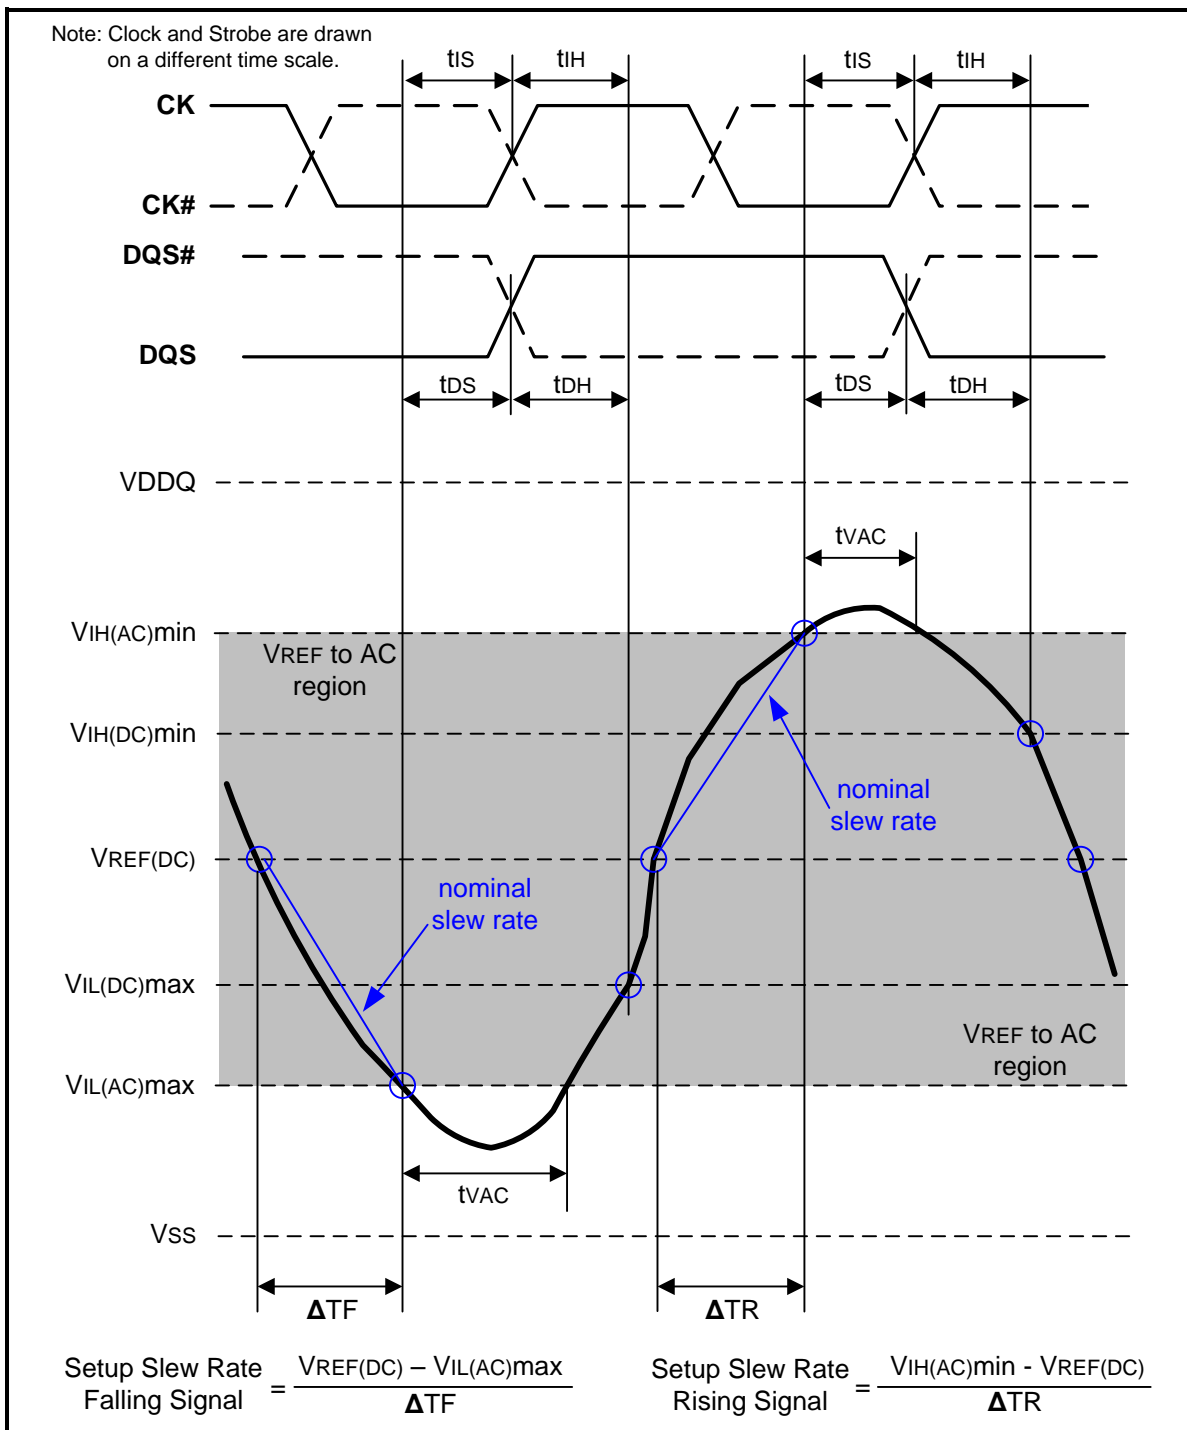
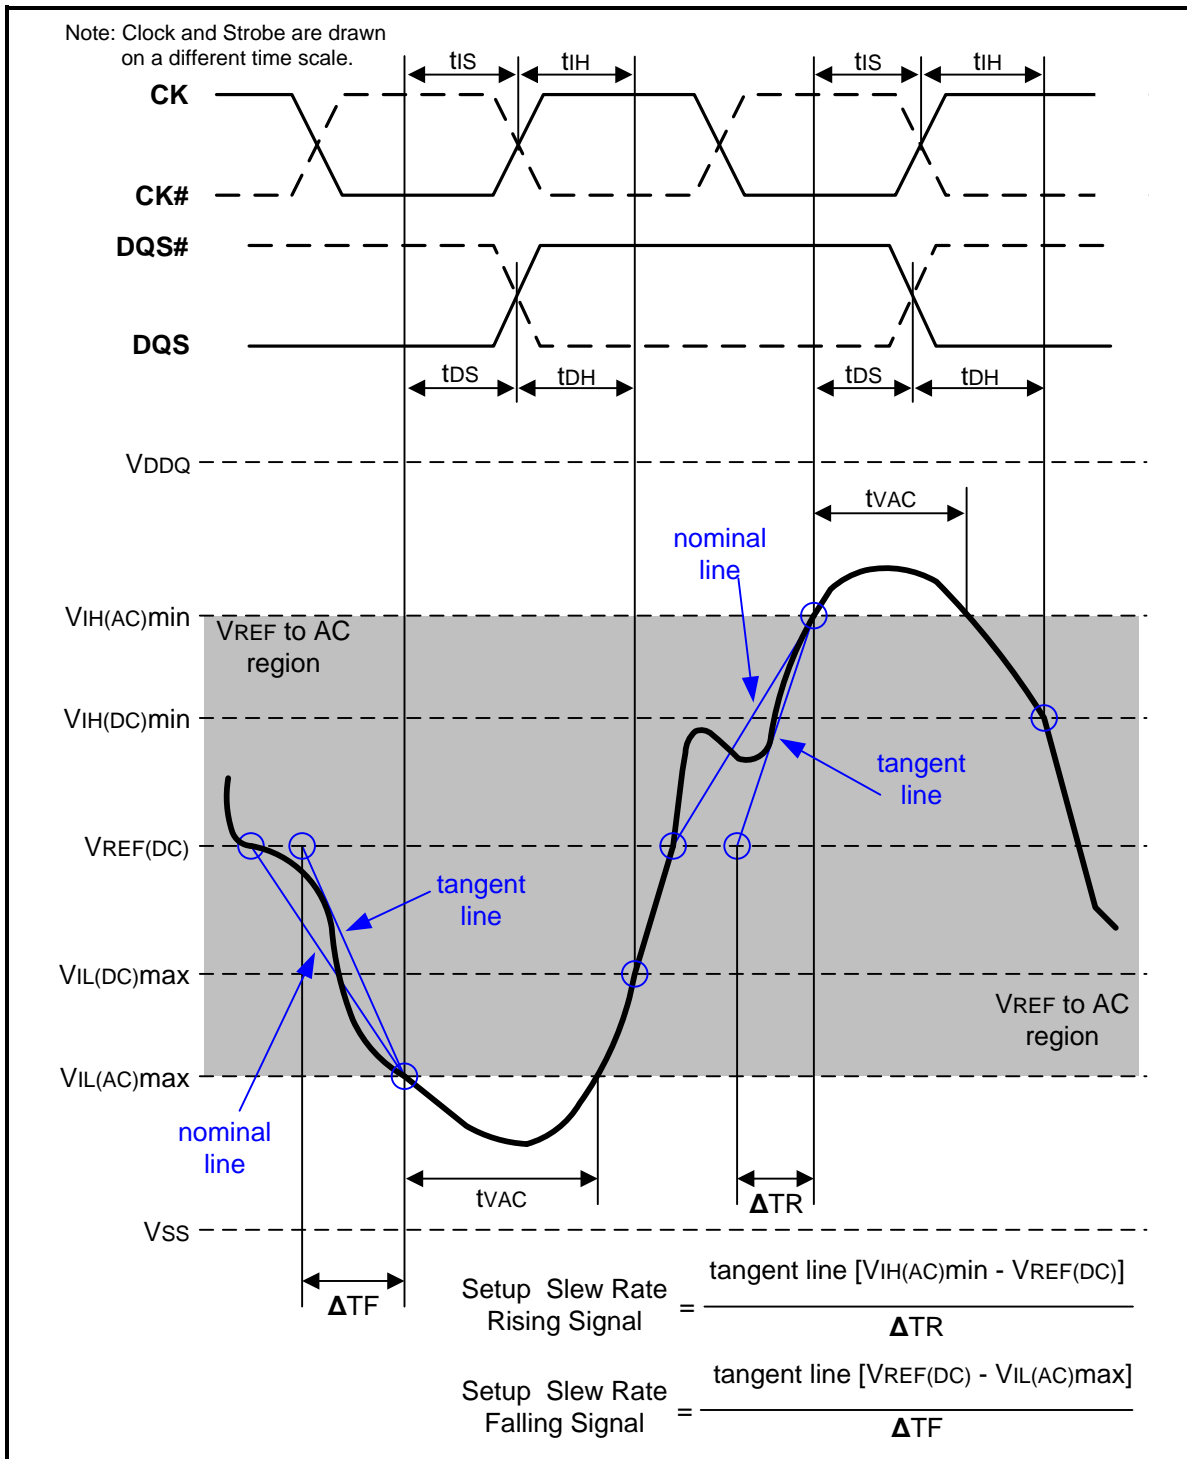

Figure 107 – Illustration of nominal slew rate and t_{VAC} for setup time t_{DS} (for DQ with respect to strobe) and t_{IS} (for ADD/CMD with respect to clock)
Figure 109 – Illustration of tangent line for setup time t_{DS} (for DQ with respect to strobe) and t_{IS} (for ADD/CMD with respect to clock)
Setup (t_{IS}) nominal slew rate for a rising signal is defined as the slew rate between the last crossing of $V_{REF}(\text{DC})$ and the first crossing of $V_{IH}(\text{AC})_{\text{min}}$. Setup (t_{IS}) nominal slew rate for a falling signal is defined as the slew rate between the last crossing of $V_{REF}(\text{DC})$ and the first crossing of $V_{IL}(\text{AC})_{\text{max}}$. If the actual signal is always earlier than the nominal slew rate line between shaded 'VREF(DC) to AC region', use nominal slew rate for derating value (see Figure 107). If the actual signal is later than the nominal slew rate line anywhere between shaded 'VREF(DC) to AC region', the slew rate of a tangent line to the actual signal from the AC level to $V_{REF}(\text{DC})$ level is used for derating value (see Figure 109).
Setup (tDS) nominal slew rate for a rising signal is defined as the slew rate between the last crossing of VREF(DC) and the first crossing of VIH(AC)min. Setup (tDS) nominal slew rate for a falling signal is defined as the slew rate between the last crossing of VREF(DC) and the first crossing of VIL(AC)max (see Figure 107). If the actual signal is always earlier than the nominal slew rate line between shaded 'VREF(DC) to AC region', use nominal slew rate for derating value. If the actual signal is later than the nominal slew rate line anywhere between shaded 'VREF(DC) to AC region', the slew rate of a tangent line to the actual signal from the AC level to VREF(DC) level is used for derating value (see Figure 109).